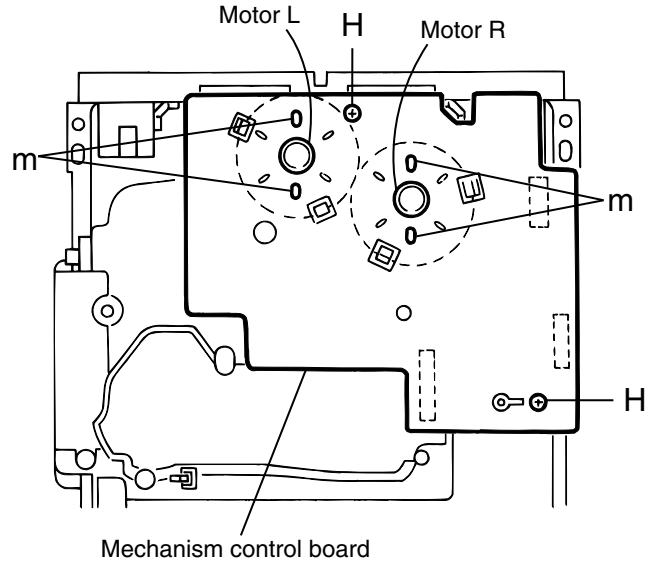

Fig.14
**■ Removing the mechanism control board (See Fig.14, 15)**
1. Absorb the four soldered positions **m** of the right and left motors with a soldering absorber(See Fig.14).
2. Remove the two screws **H** retaining the mechanism control board(See Fig.14).